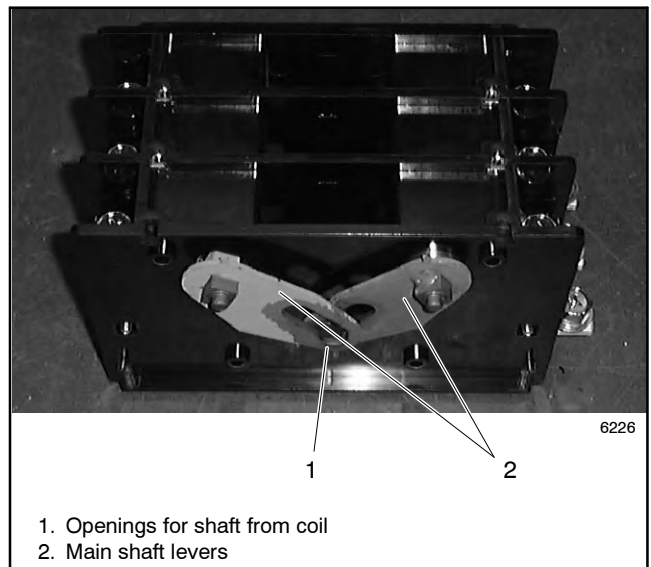

Figure 7-7 Current-Carrying Unit
1. Assemble the current-carrying unit and the mechanical unit. Make sure that the shaft from the mechanical unit goes through both main shaft levers. See Figure 7-7.